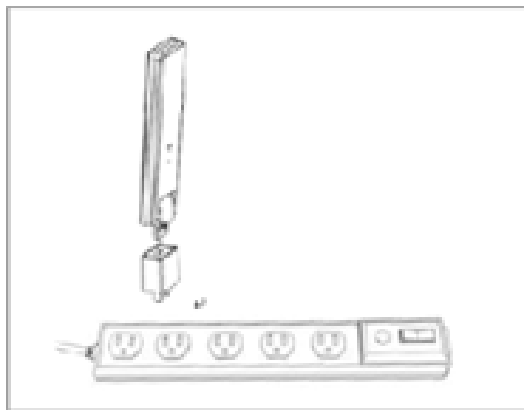

Figure 2
b. If using Power Strip, please make sure it is placed at least 1 meter above the ground and try to install the DTU 90 degrees vertical to the ground as much as possible (figure 2).